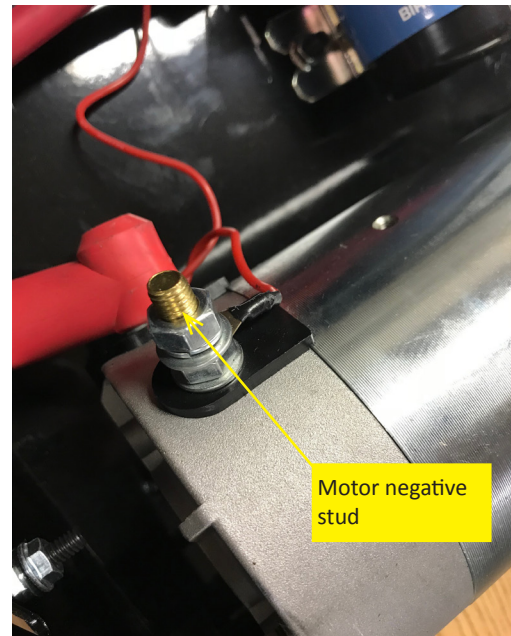

Figure 6
- 6 Connect 1 gauge black cable (**ITEM 10**) to the motor negative stud and route through the knockout to the vehicle negative battery post and connect it to the battery. Figure 6